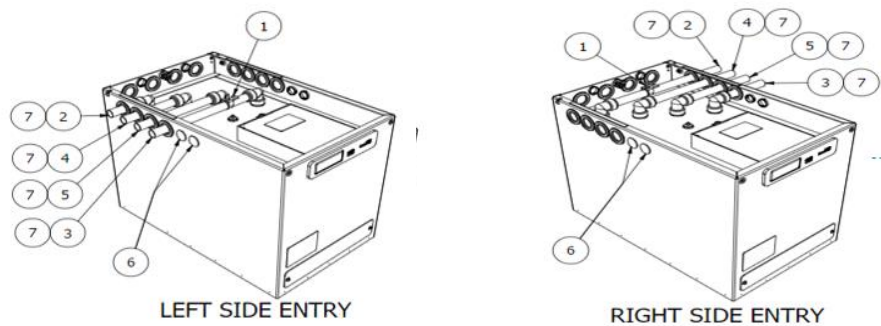

Figure 3: Heat Battery views showing the three tube exits
- Identify which side you wish to make hydraulic and electrical cable entries (see Figure 3 in Section 2.3).